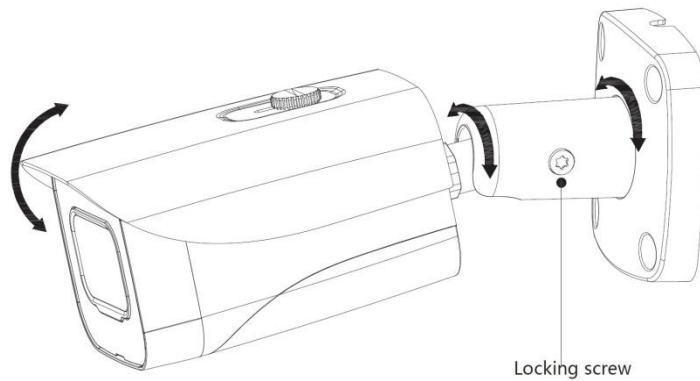
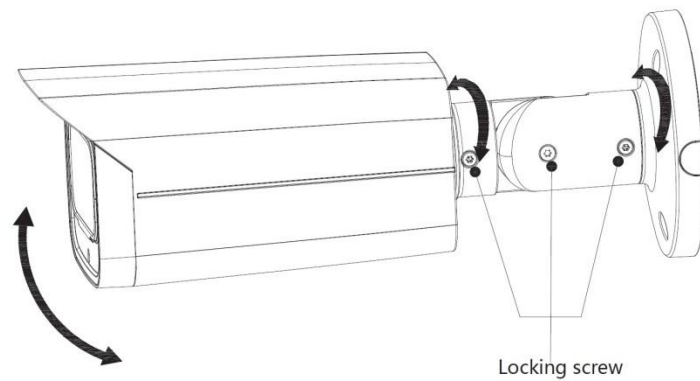

Figure 3-3
Figure 3-4
- Step 1** Drill screw holes (and the cable outlet hole if it needs to go through the mounting surface) on the mounting surface^⑤ as indicated on the positioning map.
- For masonry mounting surface, insert expansion bolts^④ from the accessory pack in the screw holes.
- Step 3** Adjust the location of the bracket^③ according to cable outlet requirement (top out or side out), and then pull the cable out through mounting surface or the side cable tray.
- Step 4** Align the screw holes on the bracket^③ to those on the mounting surface, then put in and fasten the supplied self-tapping screws^② to attach the device^① to the mounting surface.
- Step 5** Connect the camera to power source and the XVR device, and then aim the lens to the ideal angle, see Figure 3-3 or Figure 3-4.